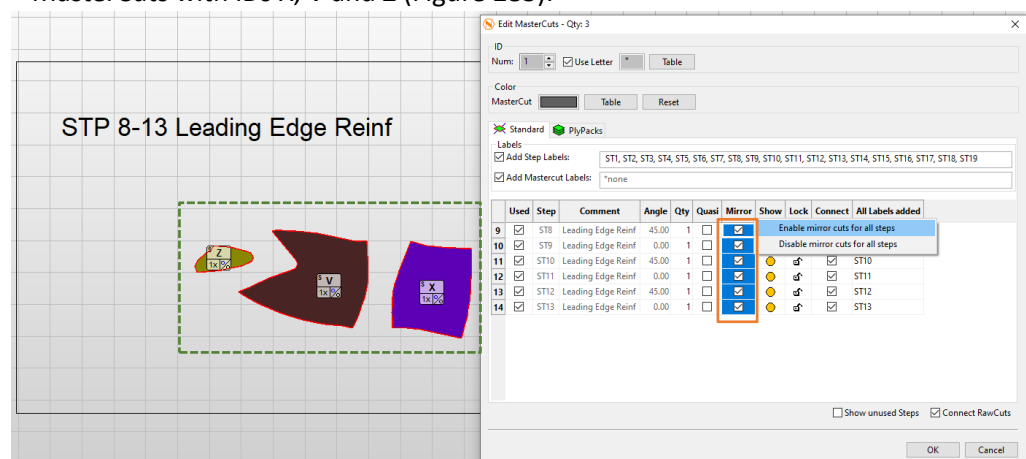

Figure 283
- MasterCuts with IDs X, V and Z (Figure 283).